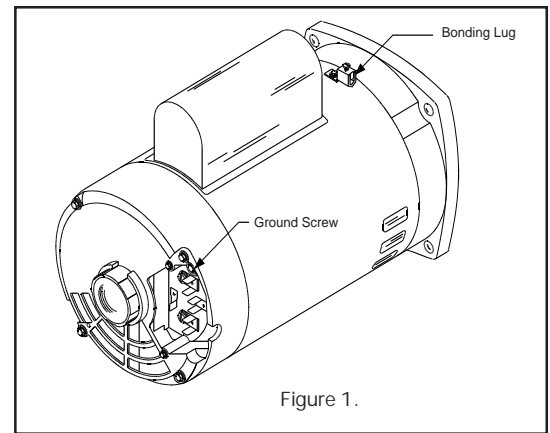

Figure 1.
6. Permanently ground the motor using the green ground terminal located on the inside of the motor canopy or access plate, see Figure 1. Use the correct wire size and type specified by National Electrical Code. Make sure the ground wire is connected to an electrical service ground.
7. Bond the motor to the pool structure in accordance with the National Electrical Code. Use a solid No. 8 AWG or larger copper conductor. Run a wire from the external bonding to the pool bonding structure, see Figure 1.